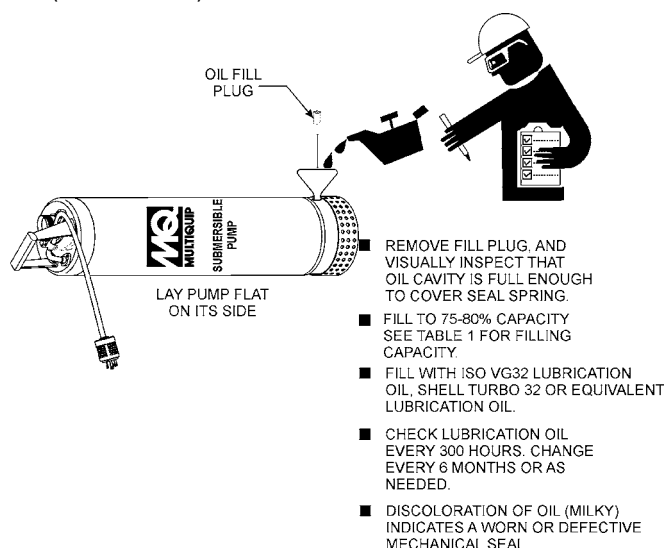

Figure 21. Adding Lubrication Oil
1. Lay the pump (Figure 21) on its side with the oil plug facing upwards.
2. Use a funnel (Figure 21) and fill oil cavity with ISO VG32 lubrication oil or equivalent. Pump oil cavity capacity is 300 cc. Fill to 75-80% capacity to allow for expansion. Replace lubrication oil every 6 months (1,000 hours) or as needed.